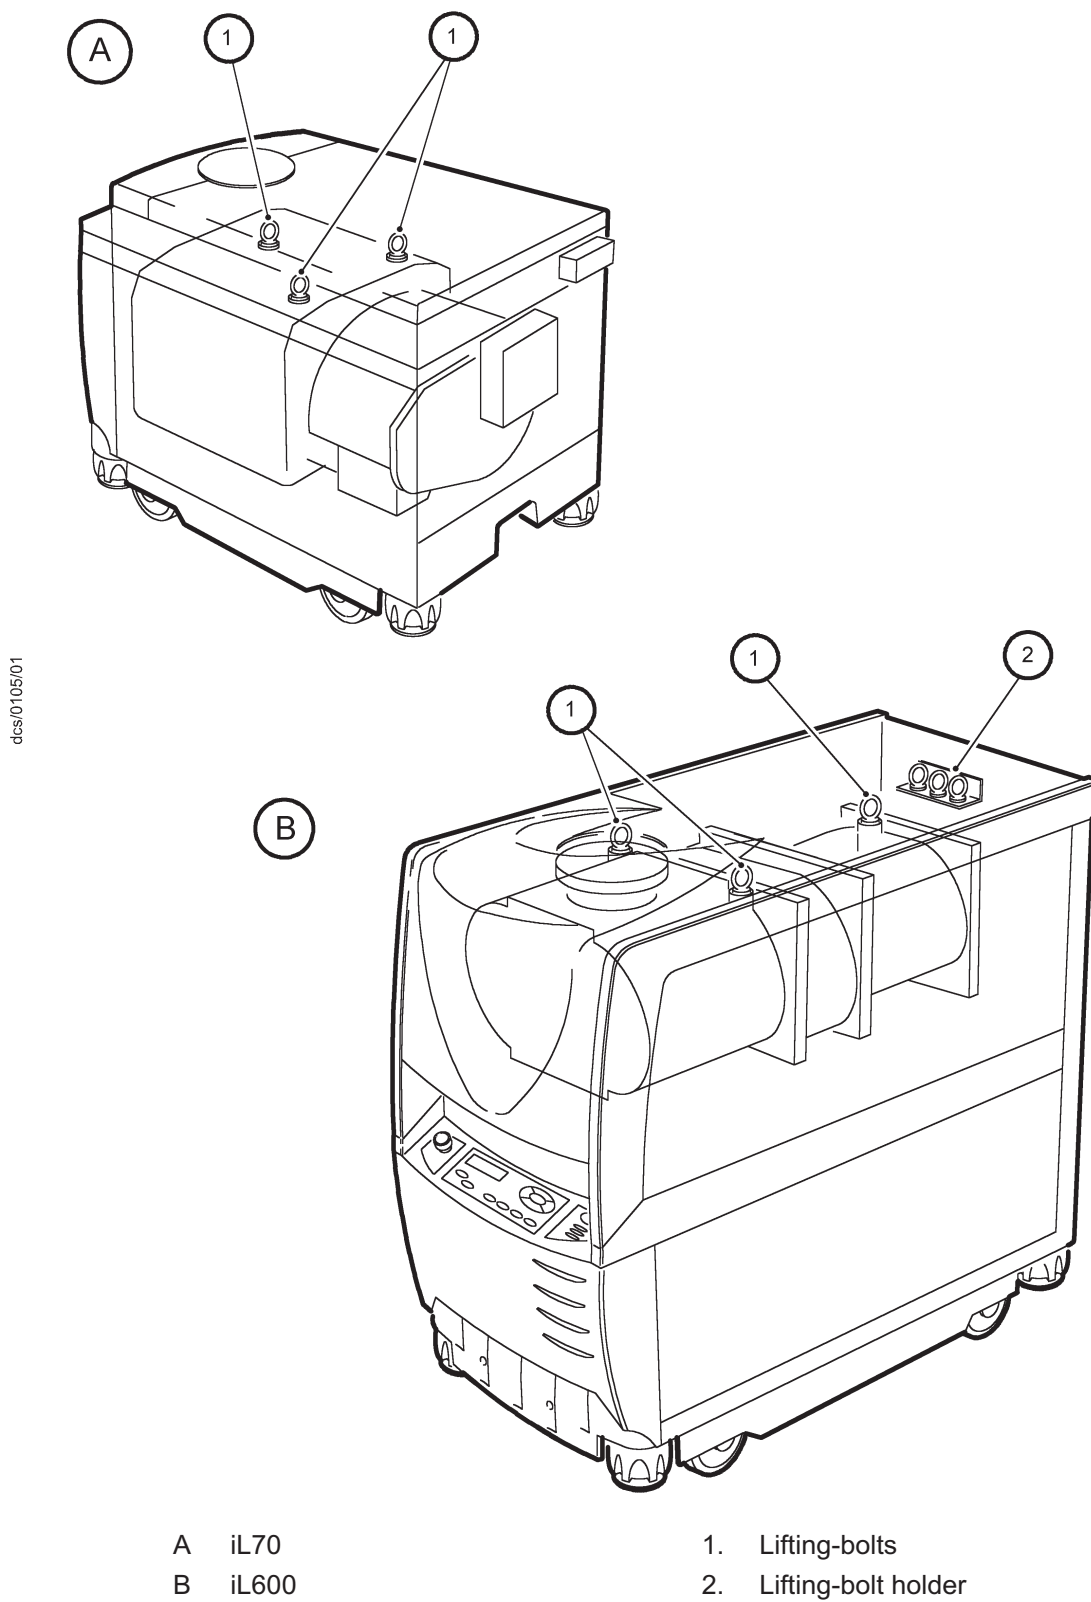

Figure 3-2 - Lifting-bolt positions
6. Refer to Figure 3-2. If you have an iL600 system, remove the three lifting-bolts from the lifting-bolt holder (2), then fit the lifting-bolts (1) to the top of the LCMB pump in the positions shown in detail B.
7. Refer to Figure 3-2 detail A or B. Use suitable lifting-equipment attached to the lifting bolts (1) to remove the iL system from its pallet. Do not try to lift the iL system by hand (see Section 2 for the mass of the iL system).
1. Use suitable lifting equipment attached to the lifting bolts (Figure 3-2, items 1) to move the iL system close to its final operating position.